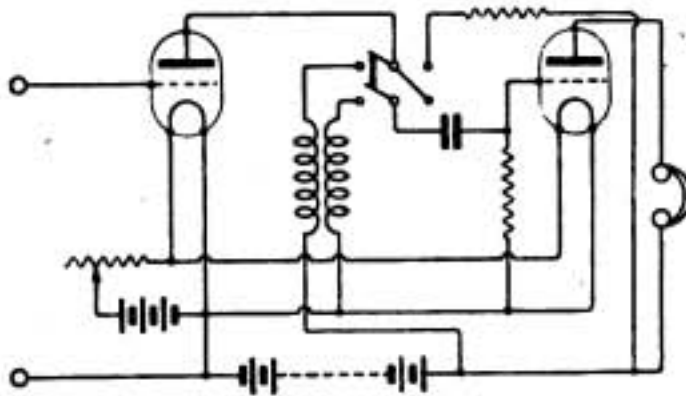
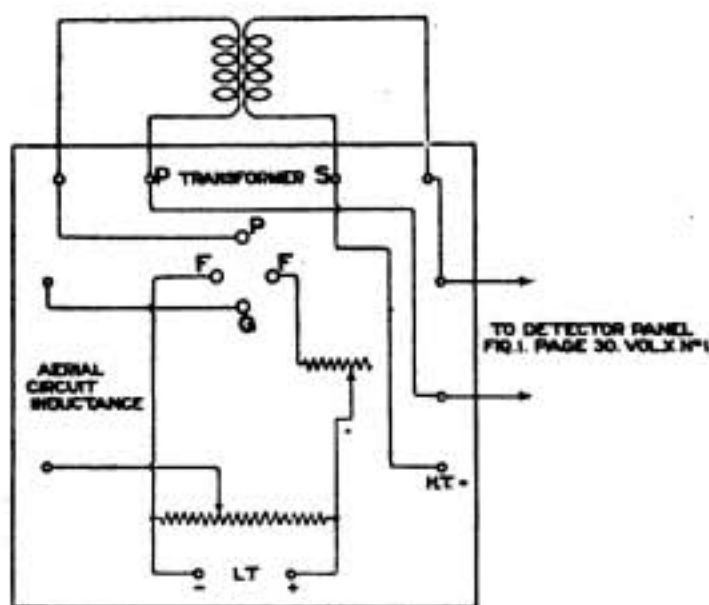

Fig. 1.
Fig. 3.
(1) For small aeriels either of the stranded copper wires will be found satisfactory. (2) There will possibly be a little noise due to leakage earth currents, but this should not interfere much with reception. (3) Yes, for single layer coils, but not for closely wound slab coils. (4) The crystal and L.F. magnification will be the simpler to operate, but better results with weak signals will be given with the former arrangement. A suitable circuit is given on page 90, Fig. 1, April 15th issue.
(1) The switching can be simplified as shown in diagram (Fig. 1). Unless care is taken to keep leads well separated to reduce capacity effects, it will be found that these switching arrangements introduce considerable loss of signal
(1) A small blocking condenser of 0.001 mfd. should be connected across telephones, also the grid condenser will require a leak of about 2 megohms. (2) This should be a 0.0005 mfd. variable condenser. (3) The maximum wavelength will be 300 metres. The coils are much too small for any useful work. Make a reaction circuit such as that described on page 90, April 15th issue, Fig. 3, using much larger coils than you have at present. (4) It is quite possible that there will be a certain amount of interference both from the wires and the electric railway.
"HIGH FREQUENCY" (Watford) asks (1) How to add an H.F. amplifier to the circuit shown in Fig 1, page 30, issue April 1st, 1922. (2) Whether it is necessary to alter the wiring of the panel. (3) The best method for using the set for the reception of telephony. (4) Number of turns of No. 36 D.S.C. wire for making intervalve oscillation transformer on a former of 1" diameter, and for wavelengths 300 to 2,500 metres.
(1), (2) and (3) Arrange as in Fig. 3. (4) It is difficult to give the exact number of turns, and would recommend you to make a number of transformers and find by trial those most suitable for particular wavelengths. Helpful information will be found in Mr. Campbell Swinton's paper to the Wireless Society of London in the issue of June 25th, 1921, page 198. For 300 to 600 metres try 25 turns on the primary and secondary. For 600 to 800, 45 turns; for 800 to 1,200, 65 turns; and 1,200 to 1,800, 150 turns; and for higher ranges use capacity intervalve coupling. Instructions for interchanging resistance capacity and coils are given in the issue of April 29th, page 133.
(1) See Fig. 3, page 60, April 8th issue. (2) This is a good aerial for such a set. (3) No. (4) A variometer, unless specially designed, only gives a small wavelength variation and is not to be recommended for your set.
(1) As an elementary circuit this is correct, but it will not be very effective. Connect a small capacity condenser across inductance, as shown in Fig. 3, page 60, April 8th issue; also a 0.001 mfd. condenser across telephones. Owing to small inductance wavelength range will be very short. (2) No. (3) Screening will not be appreciable unless the trees are very close. (4) A suitable transformer will be 3 ounces of No. 44 and 6 ounces of No. 32, wound on a soft iron core ¼" diameter by 3" long.
(1) This circuit is incorrect. Rewire as Fig. 3, page 60, April 8th issue, omitting the potentiometer if desired. (2) C.W. cannot be received on crystal sets unless a means of breaking up the oscillations, such as a ticker, is used. This, however, is not advised. (3) A suitable circuit is shown in Fig. 1, page 90, April 15th issue.
With the present inductances the results will be very poor, owing to the fine wire used for winding. The former should be made about 5" diameter and wound with No. 24 wire. A tuning condenser, connected as Fig. 3, page 60, April 8th issue, will be found an advantage. Carborundum crystal may be used if desired. It would be more stable than the silicon. Mounting the apparatus on wood does not matter if the wood is thoroughly dry.